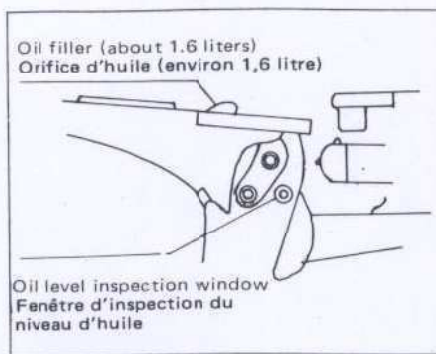

Fig. 3-1
- (2) Transmission gear oil (Fig. 3-1)
- (2) Huile de transmission (Fig. 3-1)